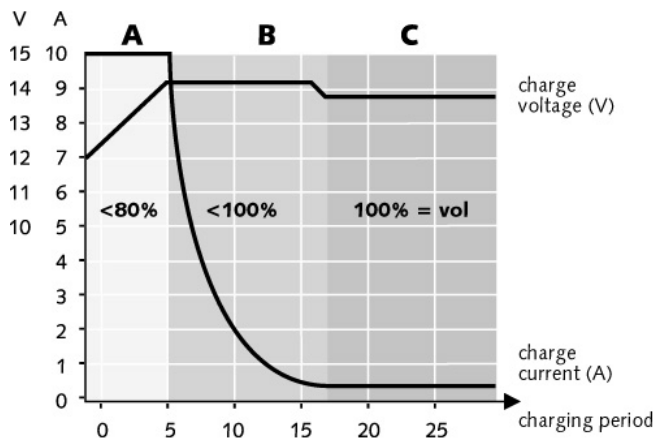

Figure 2:
See figure 2. The first step of the three step Plus charge system is the BULK phase (A), in which the output current of the charger is 100%, and the greater part of the capacity of the battery is rapidly charged. The current charges the batteries and gradually the voltage rises to the absorption voltage of 14.25V (12V models) or 28.5V (24V models) @ 20°C / 68°F.